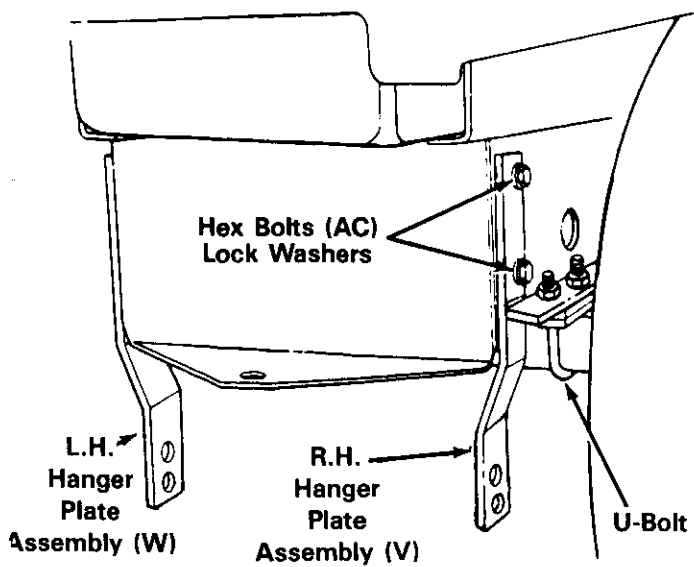

FIGURE 5
- B. Attach the right hanger plate assembly (V) as shown in figure 5 by removing the hex bolts and lock washers. Discard the hex bolts removed. Place hanger plate assembly in position, and secure with lock washers just removed and hex bolts (AC). Do not tighten at this time.